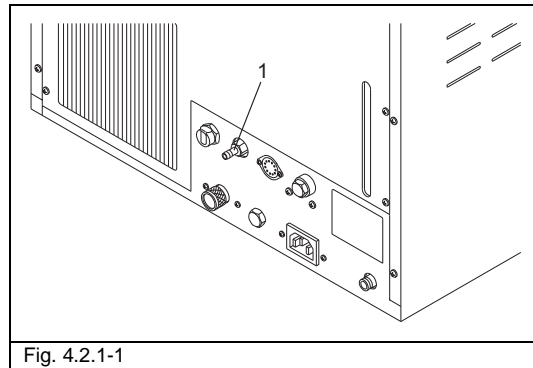

Fig. 4.2.1-1
- Connect the overflow connector (1 of Fig. 4.2.1-1) to allow the unit to drain any excess water created mistakenly.